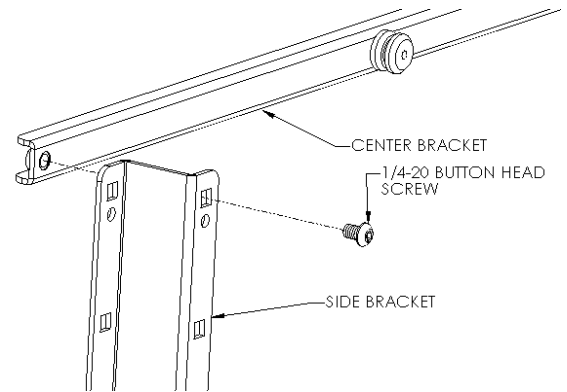
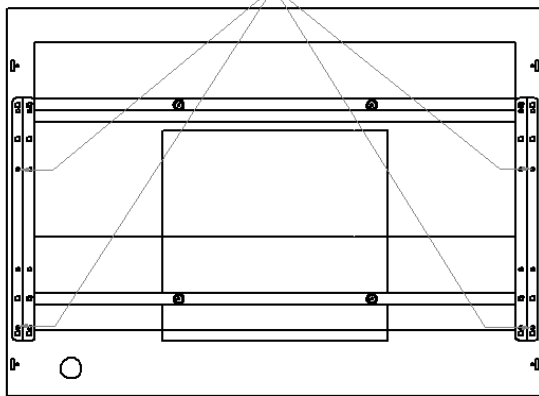

Figure 4
Figure 5
3. Using M5 screws, secure side brackets to display (see Figure 4 & Figure 5). Do not over tighten screws. The 1/4-20 button head cap screws attaching the side and center brackets may need to be loosened in order to line up holes on display. If this is done, please be sure to tighten them once again.